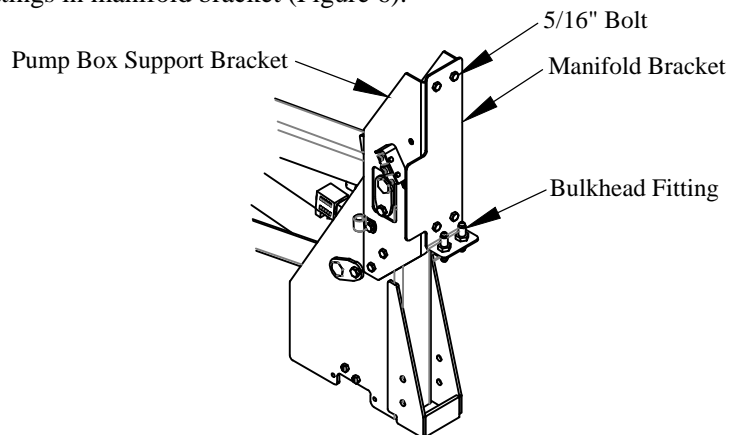

Figure 6: Manifold Bracket.
17. Install manifold bracket on the pump box support brackets with provided 5/16" bolts, lock washers and nuts (Figure 6).
18. Install bulkhead fittings in manifold bracket (Figure 6).